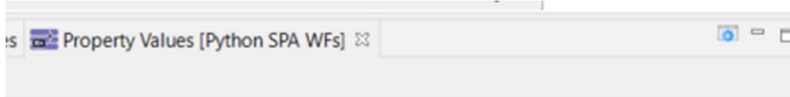

Figure 11 Open PV Definition Editor
- Select a function, select Property Values tab and click on the small blue rectangle on the right (Open PV Definition Editor) as shown in Figure 11.